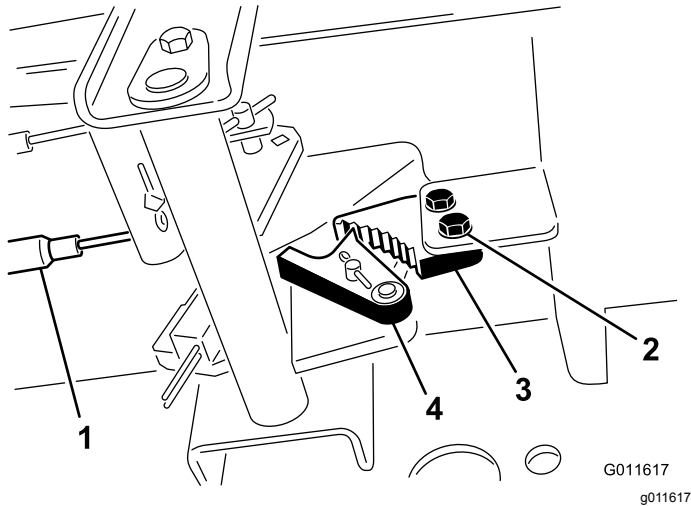

Figure 67
1. Loosen the 2 screws securing the parking-brake pawl to the frame (Figure 67).
2. Press the parking-brake pedal forward until the brake detent completely engages on the brake pawl (Figure 67).